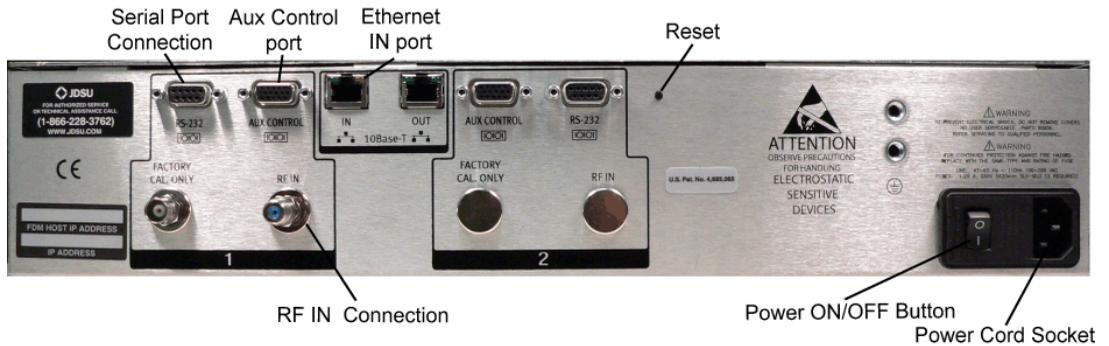

Figure 2 RSAM-5800 Back Panel
- 4 Using a standard RJ45 Ethernet cable, connect the **Ethernet IN port** of the RSAM-5800 to an **Ethernet data port connection**. (See Figure 2 on page 3)
- 5 Using a **75 Ohm cable** coaxial cable, connect the **RF IN of the RSAM-5800** to a **standard forward path combining network input**. (See Figure 2 on page 3)
- 4 Using a shielded RJ45 Ethernet cable, connect the **Ethernet IN port** of the RSAM-5800 to an **Ethernet data port connection**. (See Figure 2 on page 3)
- 5 Using a **75 Ohm cable** coaxial cable, connect the **RF IN** of the **RSAM-5800** to a **standard forward path combining network input**. (See Figure 2 on page 3)